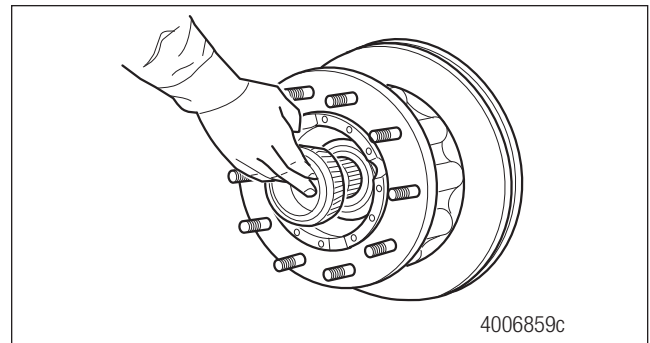

Figure 13.15
10. Install the outer bearing cone onto the spindle and press it into its cup inside the hub. Figure 13.15.